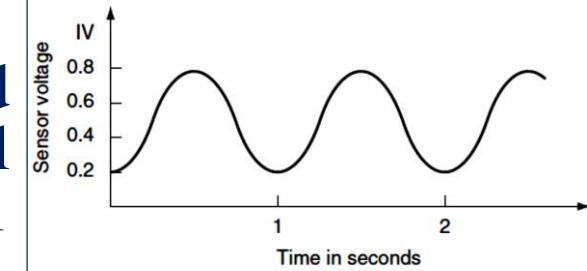

Fig. 5.30 The voltage waveform of an EGO sensor
- The approximate shape of the voltage waveform from the EGO sensor when in operation is shown in Fig. 5.30. This waveform arises from the way that the ECM alters the amount of fuel injected, i.e. lowering and raising the amount of fuel injected, in an ordered way, so as to keep the air-fuel ratio within the required limits.